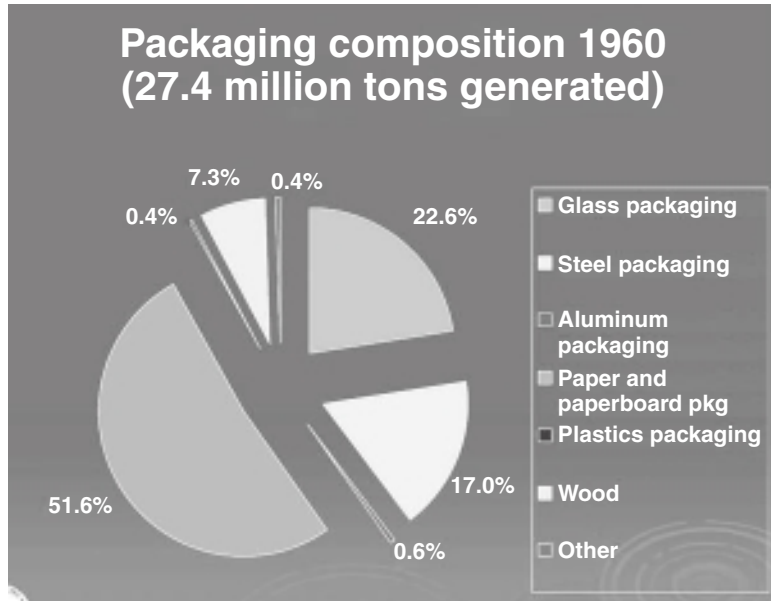

Figure 11.6
- Electronics Although electronics are an increasing part of our waste stream, only a small portion is responsibly recycled. Beginning in 2007, European Union (EU) citizens began taking their used computers, iPods, radios, and other electronic waste to collection points. This was in response to the EU Waste Electrical and Electronic Equipment (WEEE) Directive, which requires producers in member states to finance electronic waste take-back programs; they must also treat the waste. Electronic waste has been increasing three times faster than MSW as a whole. It is expected that WEEE will encourage producers to practice DfE: design changes in their electronic products that make for easier disassembly, recycling, or reuse.
- Packaging This is the largest component of US MSW, almost 32% by weight; about half is paper. Over the years, the use of glass and steel in packaging has decreased; aluminum is staying about the same. Meanwhile, plastics use, has increased dramatically. See Figure 11.6. If you examine products in US stores, you see many with unnecessary packaging. However, proper packaging performs valuable functions: on food, it reduces spoilage and the amount thrown away. In the United States, 15% to 20% of food is disposed of as